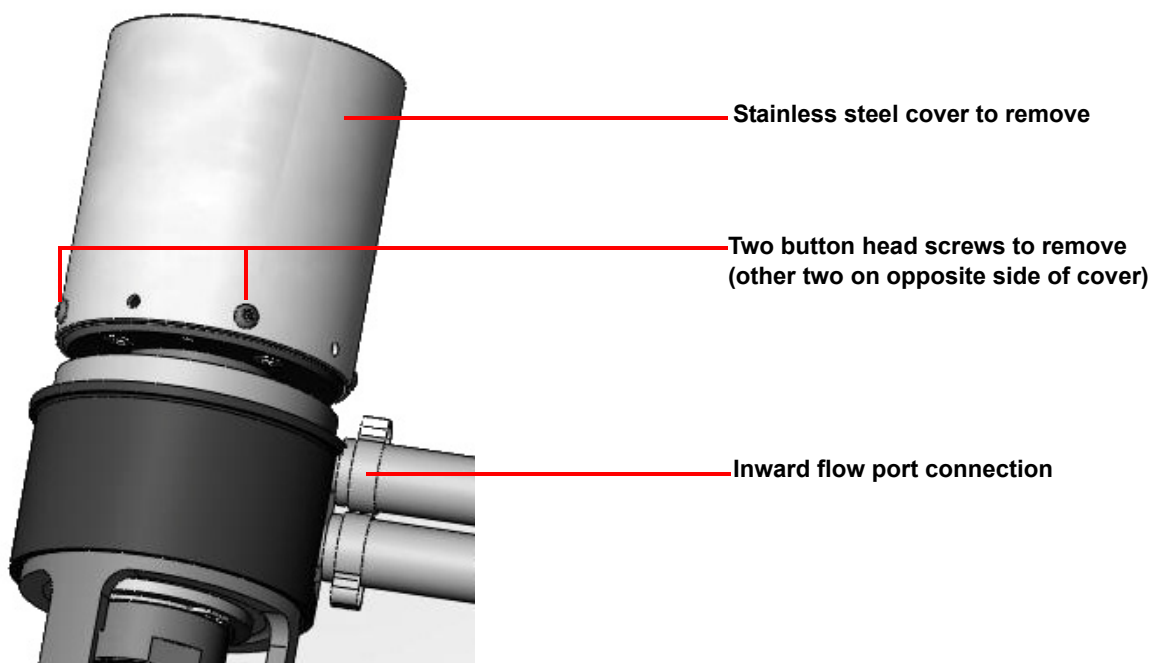

Figure 4 Sealed Fluid Bath cover and button head screw locations.
- 1 Remove the 4 button head screws from the stainless steel cover. Save the screws, as they will be used to install the replacement cover supplied in the upgrade kit. Refer to Figure 4.